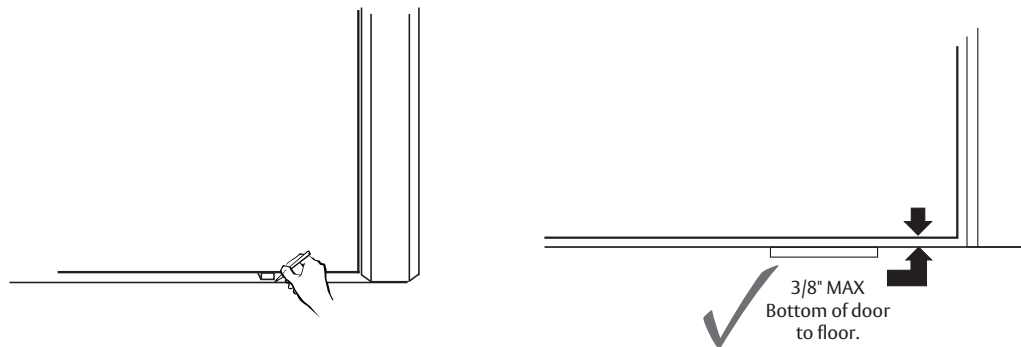

Figure 8
3. Mark location of bottom strike pocket and hole locations. (Figure 8)